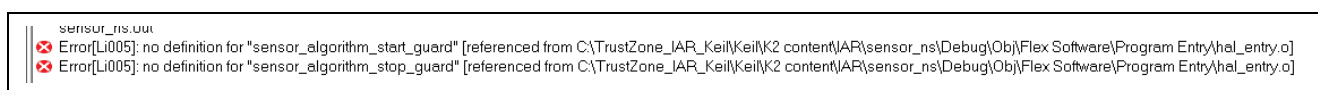

Figure 72. Potential Error Message
10. Return to the EWARM IDE and check if there is a \Objects folder under \Flex_Software and secure.o exists in the \Objects folder. If yes, the non-secure project will be compiled with no issue. If not, then the non-secure project will need to be compiled twice. The first compile will issue an error message similar to Figure 72. The second compile process will succeed. This is because there is a timing issue between EWARM and RSAC operation.